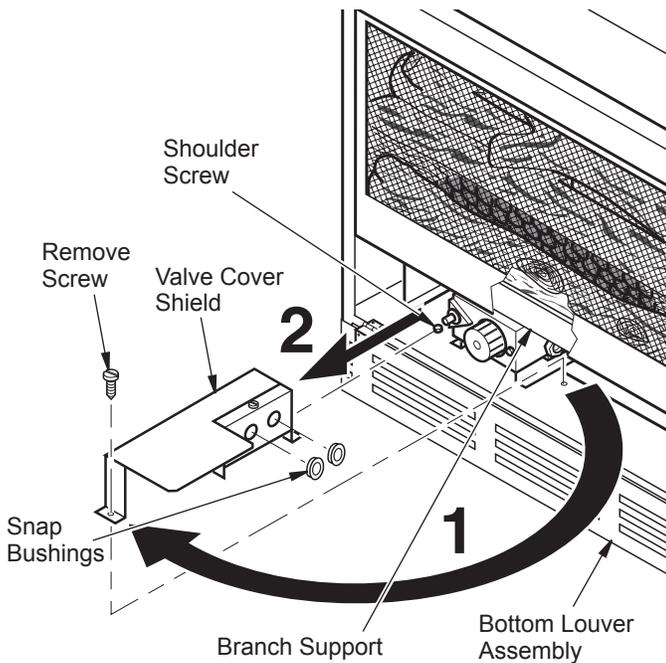

Figure 3 - Removing Valve Cover Shield
1. Open bottom louver assembly by swinging the assembly down (see Figure 3, page 2).
2. Using short Phillips screwdriver, remove screw under the center of branch support. Rotate valve cover shield clockwise and slide out. **IMPORTANT:** Do not remove shoulder screw on left side of valve cover shield. Slide valve cover shield off of shoulder screw (see Figure 3, page 2).